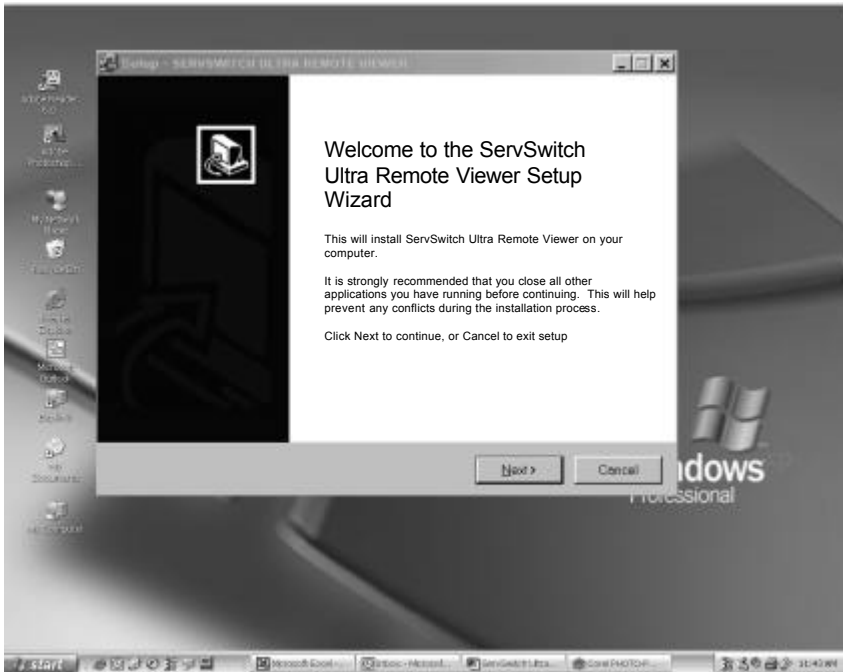

Figure 1.3 Set-up Wizard
- Run the “Setup” program on the diskette. You’ll be guided through a standard Windows style installation process as shown in Figure 1.3